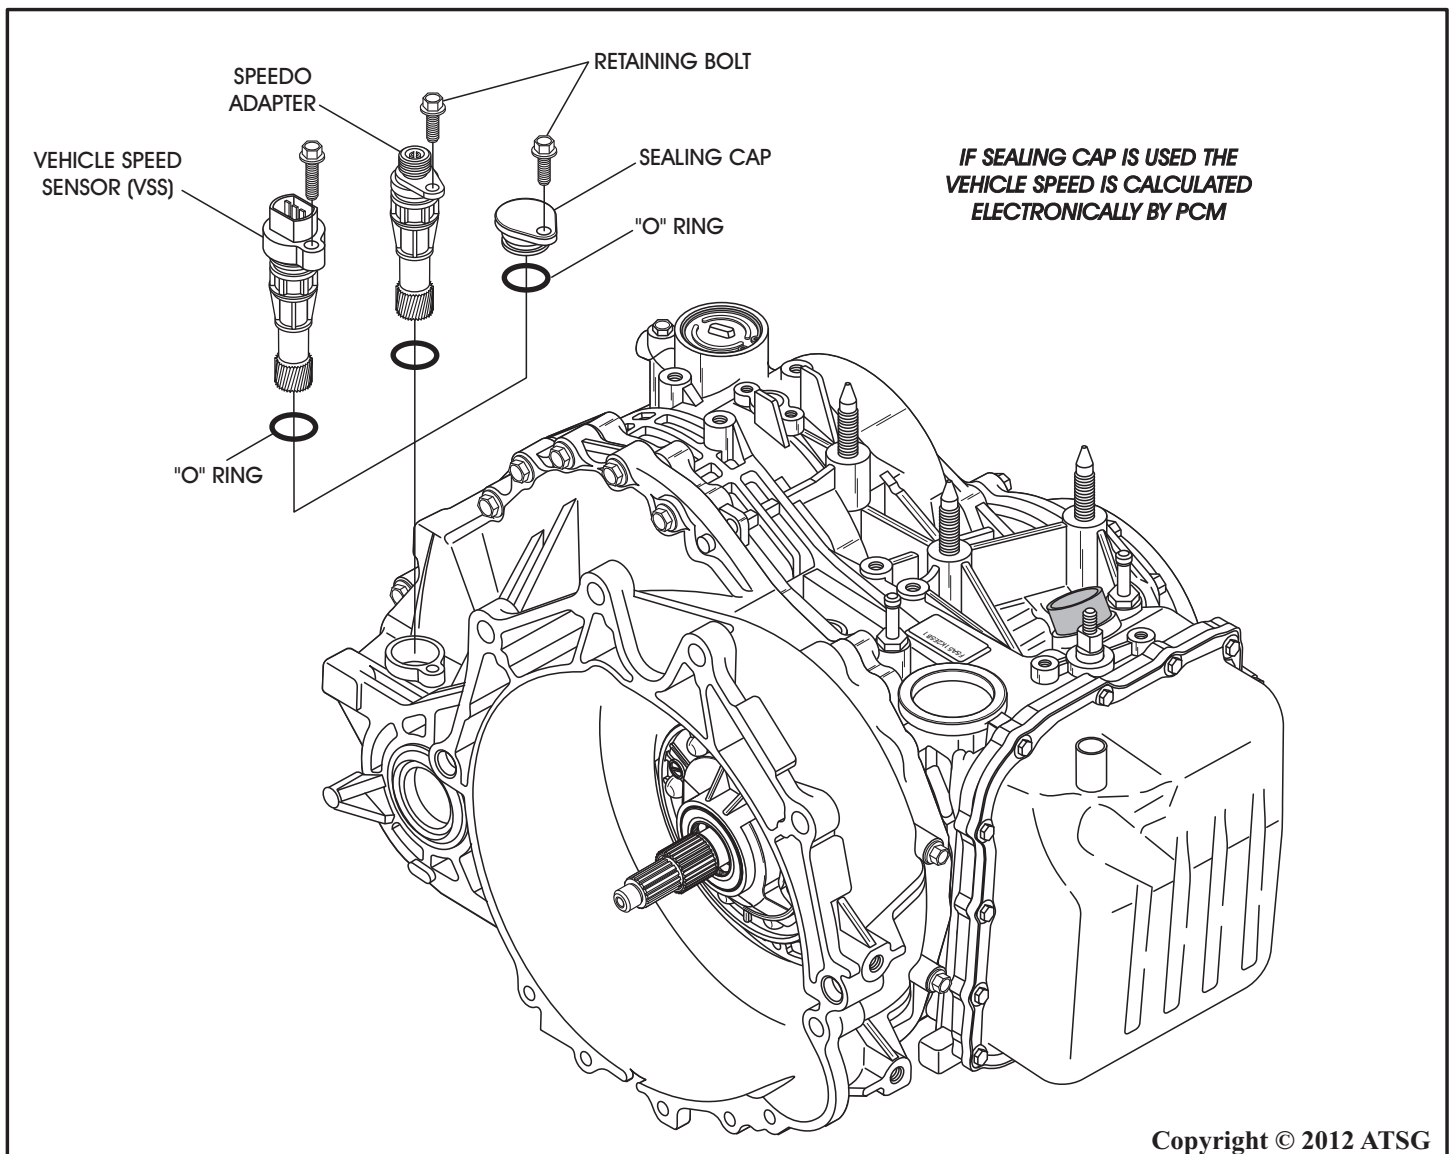

Figure 50
12. Remove the speedometer adapter, the vehicle speed sensor, or the sealing cap, depending on which the transaxle is equipped with. Refer to Figure 50.